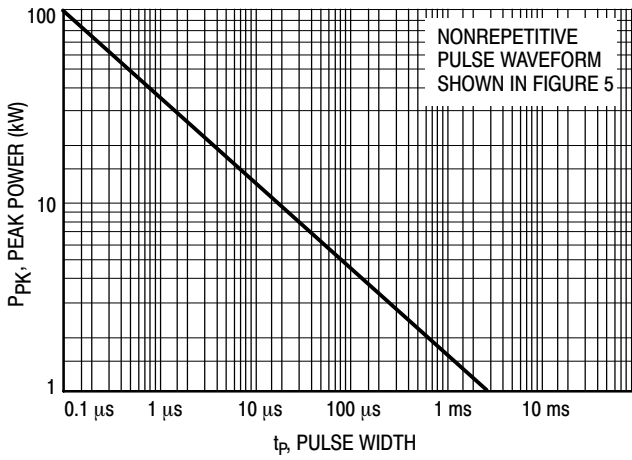
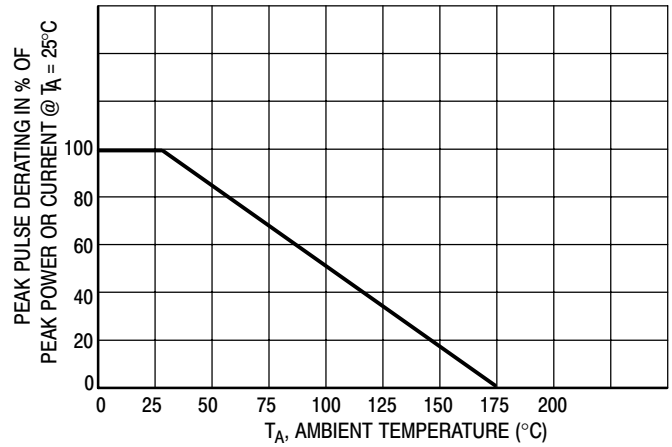
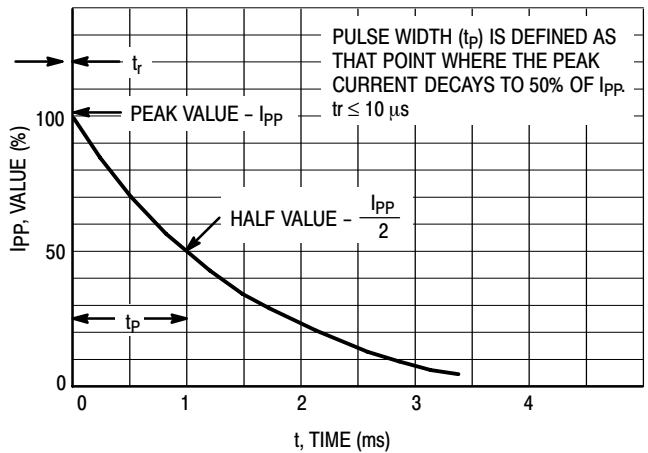
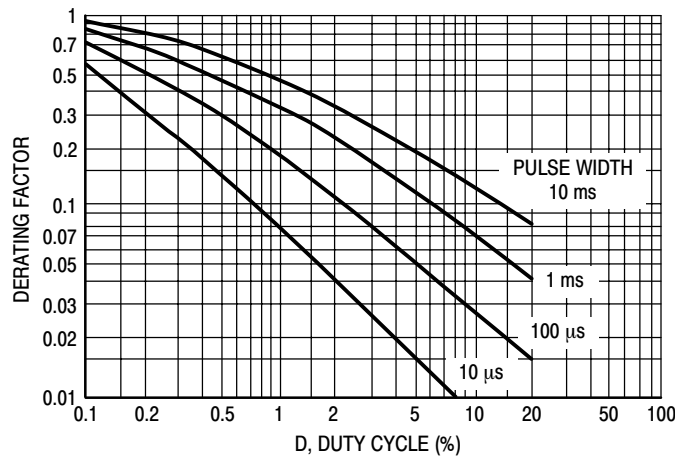

Figure 1. Pulse Rating Curve
Figure 2. Pulse Derating Curve
Figure 5. Pulse Waveform
Figure 7. Typical Derating Factor for Duty Cycle
1. Nonrepetitive current pulse per Figure 5 and derated above $T_A = 25^\circ\text{C}$ per Figure 2.
7. Surge current waveform per Figure 5 and derate per Figures 1 and 2.
The data of Figure 1 applies for non-repetitive conditions and at a lead temperature of 25°C. If the duty cycle increases, the peak power must be reduced as indicated by the curves of Figure 7. Average power must be derated as the lead or
At first glance the derating curves of Figure 7 appear to be in error as the 10 ms pulse has a higher derating factor than
the 10 μs pulse. However, when the derating factor for a given pulse of Figure 7 is multiplied by the peak power value of Figure 1 for the same pulse, the results follow the expected trend.